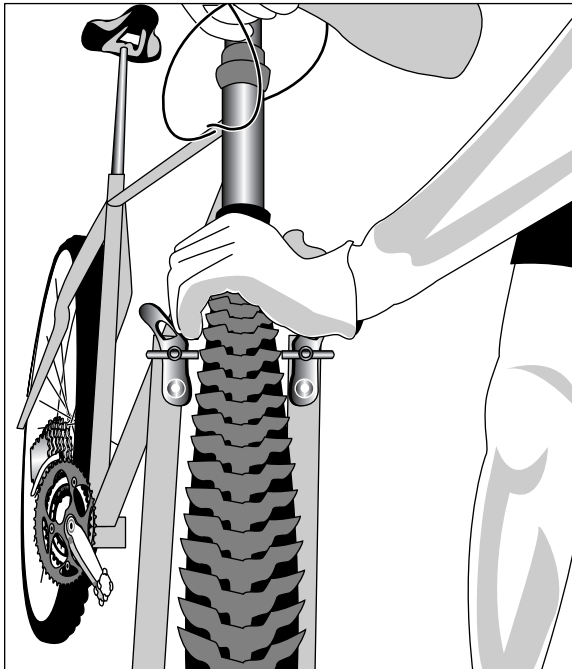

Figure 18-4:
- ✓ Grab the frame with one hand and, with the other hand, give each wheel a shake from side to side to check for looseness (see Figure 18-4). There should be little or no amount of play in the hubs. Any significant movement could be a sign that there is an issue with the wheel.